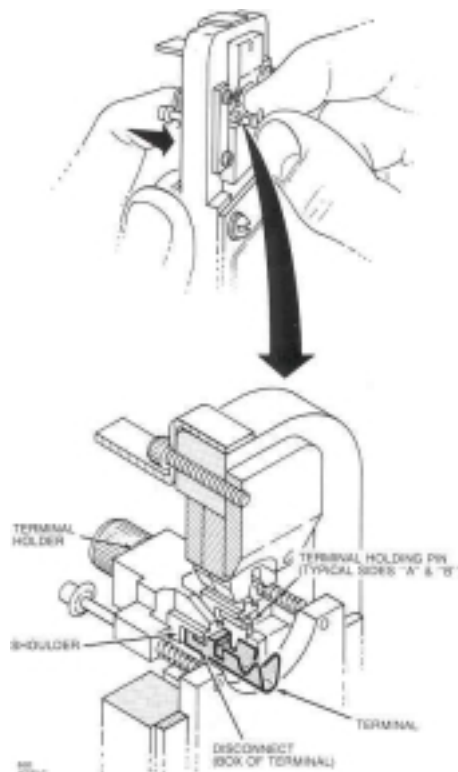

Figure 2. Positioning Terminal
1. Hold the hand tool so that the lever is on the left. With your index finger, push and hold the terminal holder in its forward position (see Figure 2).